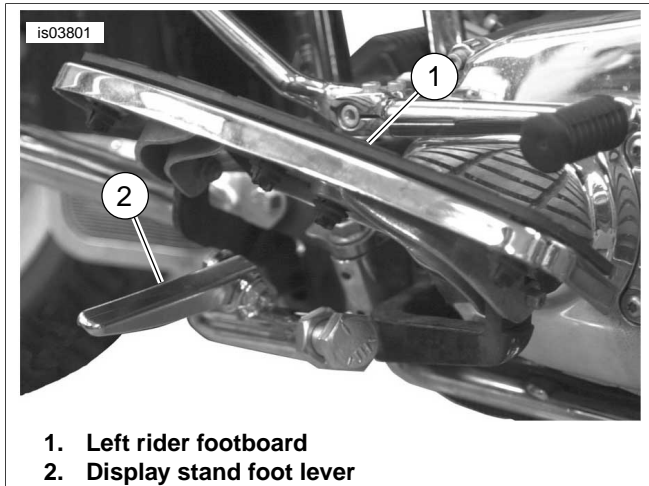

Figure 2. Left Rider Footboard and Display Stand Foot Lever
1. See Figure 2. With the vehicle on a level surface and standing on the left side of the vehicle, lift the left rider footboard (1).